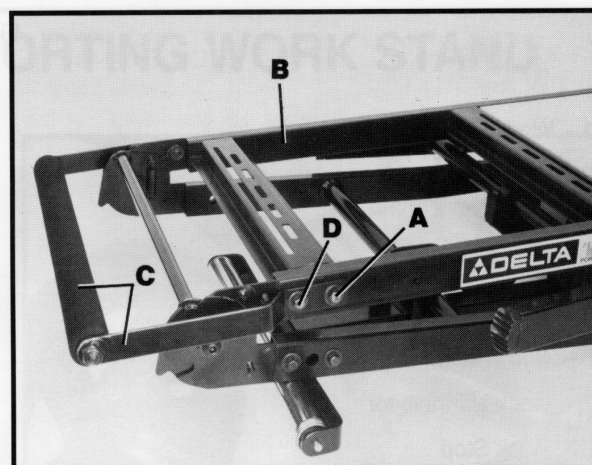

Fig. 2B
4. Lower handle assembly (C) Fig. 2B, until remaining holes in handle line up with threaded holes in kickstand (B) and fasten handle assembly to kickstand as shown with two screws, lockwashers and flat washers (D), which were removed in STEP 3.